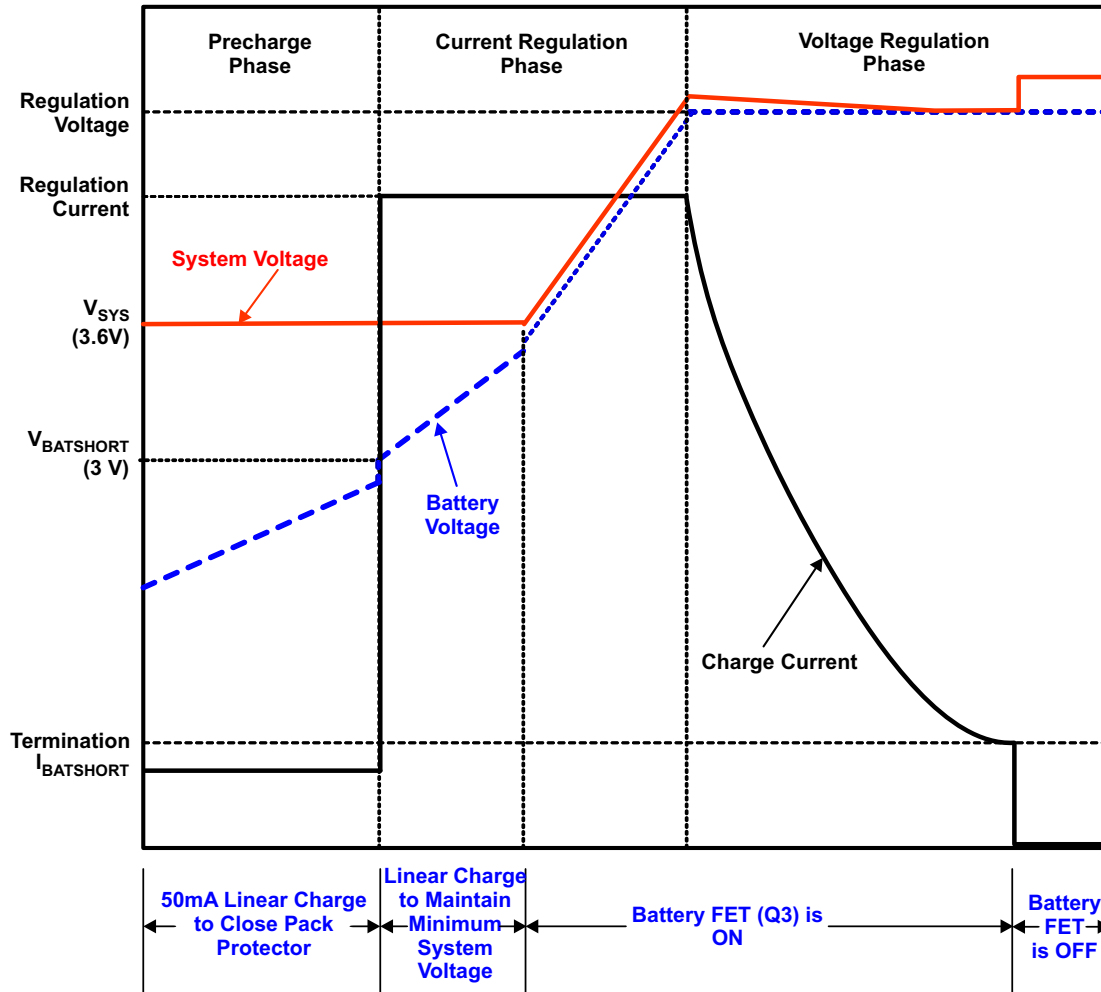

Figure 10. Typical Charging Profile of bq2426x
The bq2426x supports a precision Li-Ion or Li-Polymer charging system for single-cell applications. Charging is done through the internal battery MOSFET. There are 6 loops that influence the charge current; constant current loop (CC), constant voltage loop (CV), thermal regulation loop, minimum system voltage loop (MINSYS), input current limit and V_{IN}-DPM. During the charging process, all six loops are enabled and the one that is dominant takes control. The minimum system output feature regulates the system voltage to V_{SYSREG(LO)}, so that startup is enabled even for a missing or deeply discharged battery. Figure 10 shows a typical charge profile including the minimum system output voltage feature.
Once the battery is charged enough that the system voltage rises above $V_{\text{SYSREG(LO)}}$ (approximately 3.5V), the battery FET is turned on fully and the battery is charged with the full programmed charge current set by ISET. The charge current is regulated to I_{CHARGE} until the voltage between BAT and PGND reaches the regulation voltage. The voltage between BAT and PGND is regulated to V_{BATREG} (CV mode) while the charge current naturally tapers down as shown in Figure 10. During CV mode, the SYS output remains connected to the battery. The impedance of the battery FET is increased to 4x of the fully on value when IBAT falls below ~350mA to provide increased accuracy during termination. This will show a small rise in the SYS voltage when the $R_{\text{DS(on)}}$ increases below ~350mA.